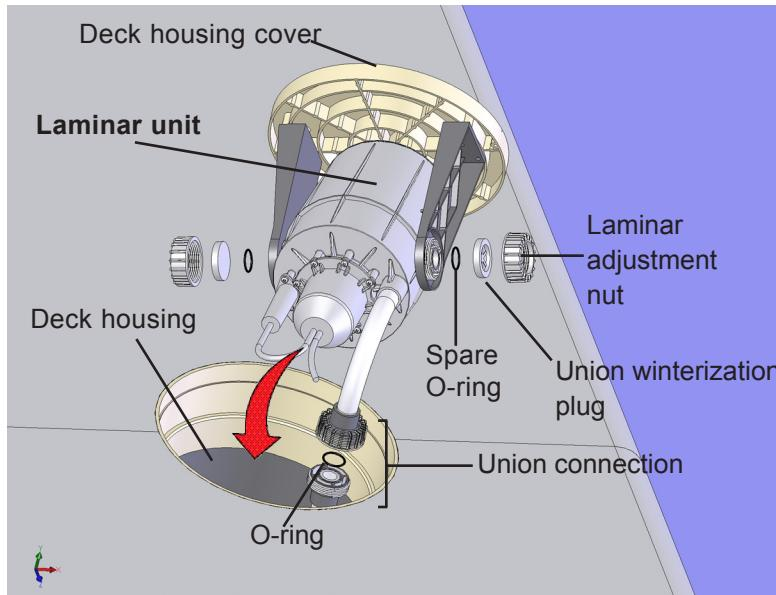

Figure 5
2. Make sure the spare o-rings are in place. Place the union winterization plugs in the Laminar adjustment nuts and screw them in place on the Laminar body (Figure 5).
3. Connect the Laminar to the supply pipe with the union connection (Figure 5). Make sure the o-ring stays in its groove and the connection surface is clear of all glue/dirt.)
5. Place the deck housing lid/Laminar unit in the deck housing (Figure 5). If the hoses in the deck housing prevent the proper seating of the deck housing lid, you may have to loosen the union nut briefly and allow the hoses to twist, so that they spiral out of the way, into the deck housing.